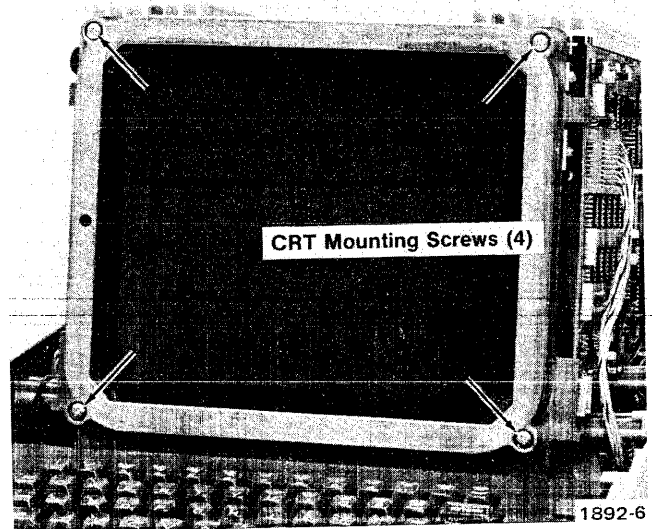

Fig. 2-4. Crt Mounting Screws.
3. Remove the four screws that attach the implosion shield frame to the terminal frame (Fig. 2-4). Remove the implosion shield frame and the implosion shield.